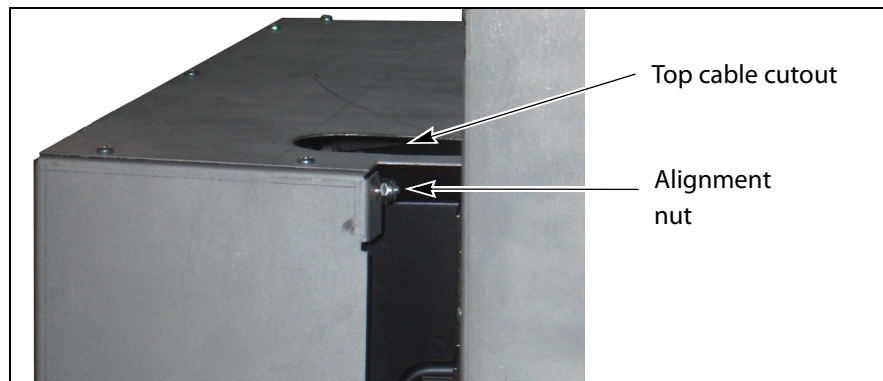

Figure 5 Cover alignment nuts (one on each side).
3. Lift the cover upward and away from the chassis to disengage the two nuts extending from the back of the cover from the holes on either side of the chassis (see Figure 5). Set the cover aside.